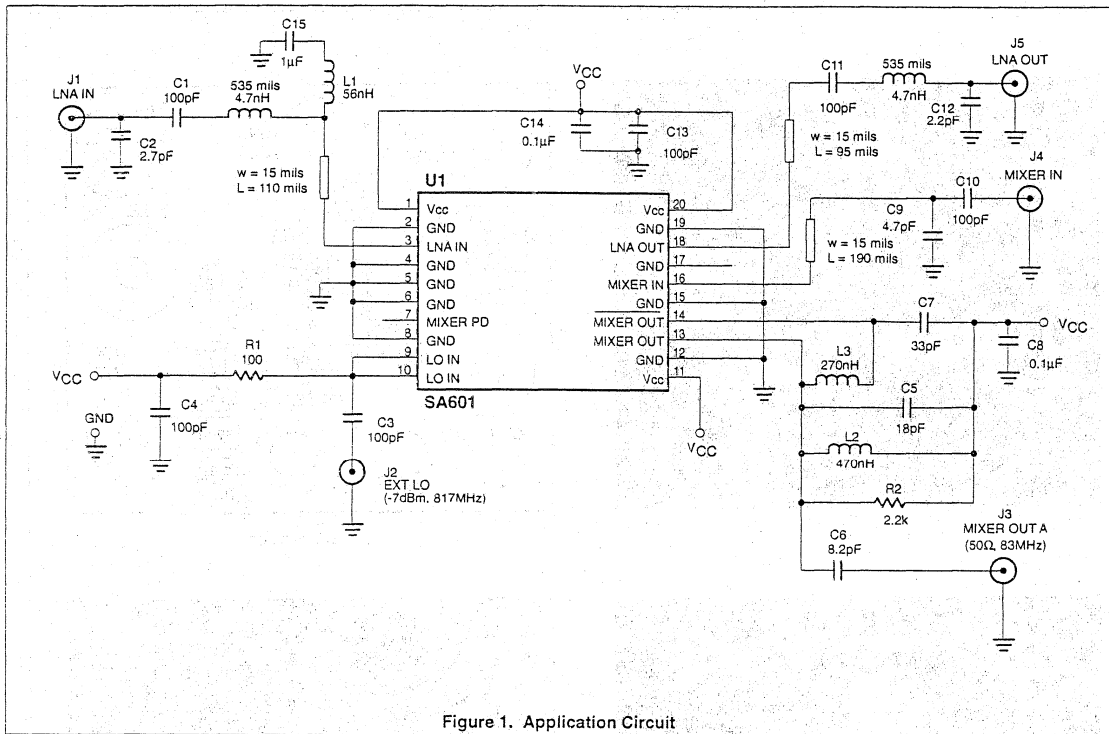

Figure 1. Application Circuit
**Impedance Match:** Intrinsic return loss at the input and output ports is 7dB and 9dB, respectively. With no external matching, the associated LNA gain is  $\approx 10$ dB and the noise figure is  $\approx 1.4$ dB. However, the return loss can be improved at 900MHz using suggested L/C elements (Figure 1) as the LNA is unconditionally stable.